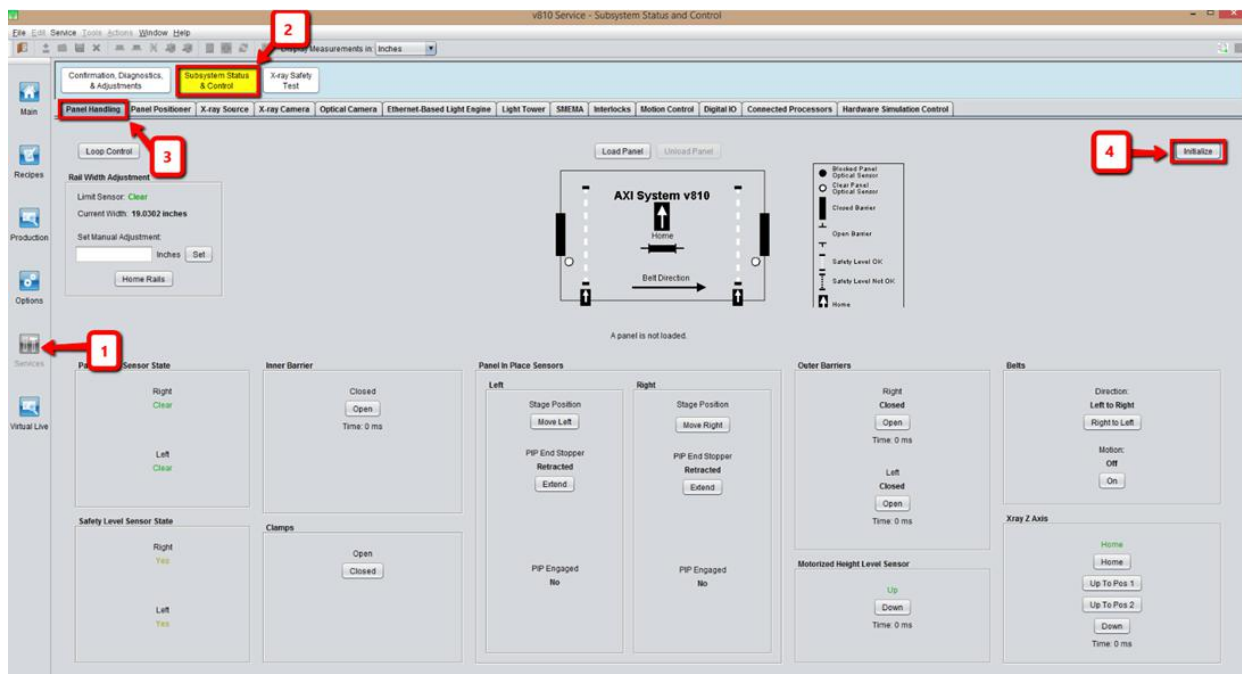

Figure 2 Panel Handling
2. Go to Services->Subsystem Status & Control-> Panel Handling and click Initialize as Figure 2.